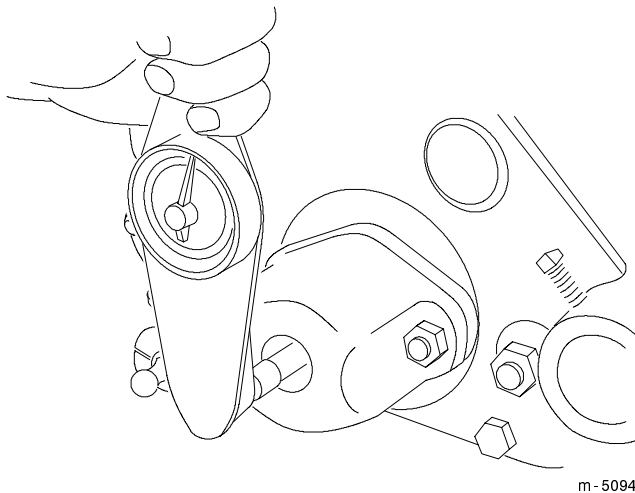

Figure 12
2. The reel bearing drag should be from 7 to 11 in.-lb. This can be measured with a torque wrench (Fig. 12).
3. Remove the large bearing adjustment nut from one end of the reel shaft (Fig. 12) and the special spline nut at the opposite end of the reel shaft.